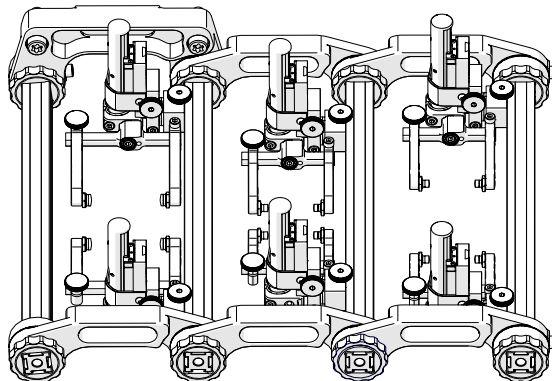

Fig. 151 - Mount vertical probe holders
15. Mount vertical probe holders (Fig. 151).